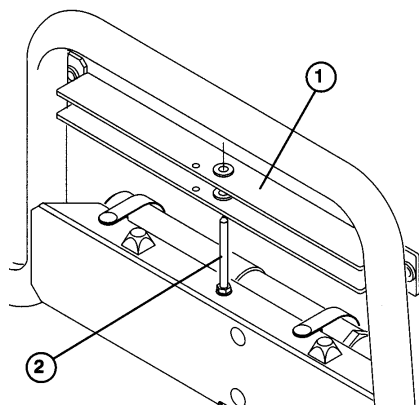

Figure 16
2. Remove the bed support from storage stud on top of the back rest support channel on the Workman (Fig. 16).